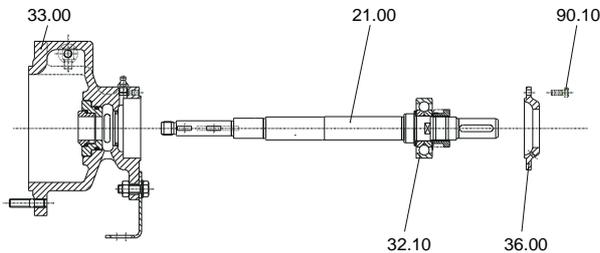

Fig. 6
14. Loosen setscrews 90.10 and remove bearing cover 36.00. Press out shaft 21.00 with bearing 32.10 from bearing housing 33.00 (fig. 6).